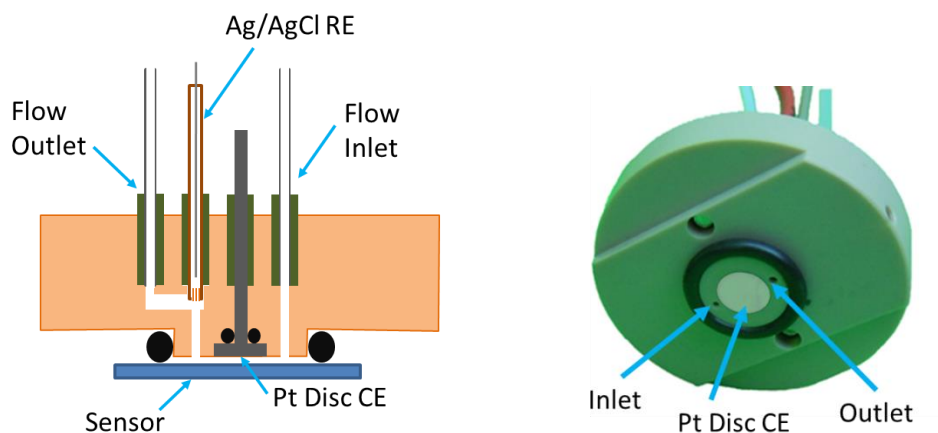

Figure 4: Schematic Diagram of the Electrochemical Flow Cell (left) and underside of flow cell lid (right)
The electrochemical flow-cell is shown schematically in Figure 4. The Counter Electrode (CE) is a Pt disc¹ above the QCM sensor Working Electrode (WE). The Reference Electrode (RE) is a Ag/AgCl microelectrode situated in the exit flow path.